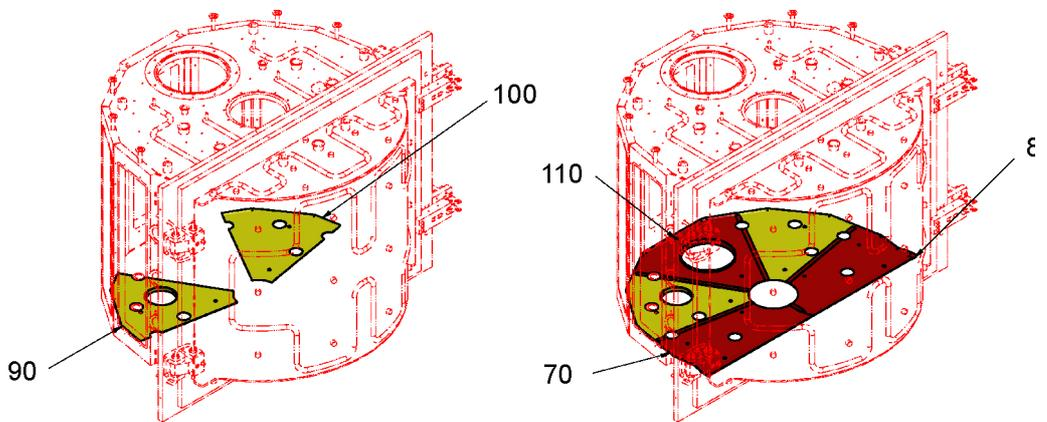

Fig. 7-13
5 Remove the bottom shields. See Fig. 7-13, 175.
- 15** Mount the bottom shields. See Fig. 7-13,  175.